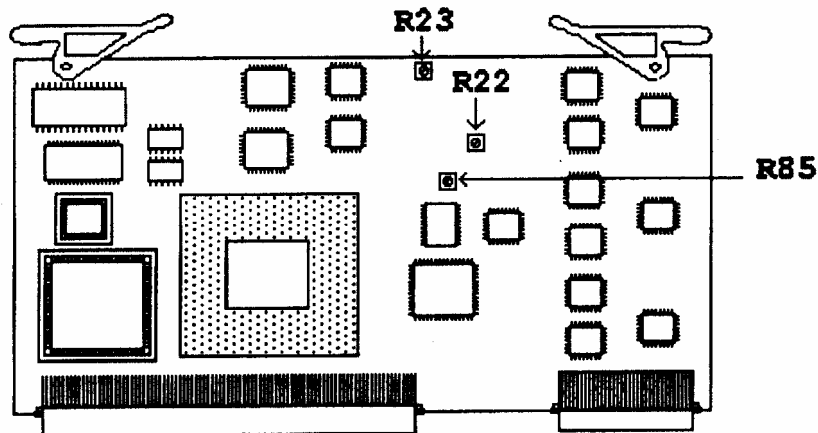

Figure 2. Function generator assembly A24.
(4) Connect multimeter **INPUT HI** and **LO** to **TI AUDIO OUT**. Set multimeter to measure volts dc.
(5) Press **FIELD SELECT ↓** key to select **LEVEL** and press **DATA ENTRY ENTER** key. Press **DATA ENTRY 3 . 1** and **ENTER** keys.
(6) Press **FIELD SELECT ↑** key to select **GEN 1** and press **DATA ENTRY ENTER** key to set **GEN 1 On**.
(7) If multimeter does not indicate $0.000 \pm .01$ V dc adjust A24R23 (fig. 2) as close as possible.
(8) Press **DATA ENTRY ENTER** key to set **GEN 1 Off**. Press **FIELD SELECT ↓** key to select **GEN 2** and press **DATA ENTRY ENTER** key to set **GEN 2 On**.
(9) If multimeter does not indicate 0.000 ± 0.01 V dc adjust A24R22 (fig. 2) as close as possible.
(10) Press **DATA ENTRY ENTER** key to set **GEN 2 Off**. Press **FIELD SELECT ↑** key to select **GEN 1** and press **DATA ENTRY ENTER** key to set **GEN 1 On**.
(11) Press **FIELD SELECT ↓** key to select **GEN 1 WAVE**, adjust **DATA SCROLL** knob to select **Sine**, and press **DATA ENTRY ENTER** key. Set multimeter to measure volts ac and record multimeter indication (approximately 3.1 V rms).
(12) Press **FIELD SELECT ↑** key to select **GEN 1** and press **DATA ENTRY ENTER** key to set **GEN 1 Off**.
(13) Press **FIELD SELECT ↓** key to select **GEN 2 WAVE**, adjust **DATA SCROLL** knob to select **Sine**, and press **DATA ENTRY ENTER** key. Press **FIELD SELECT ↑** key to select **GEN 2** and press **DATA ENTRY ENTER** key to set **GEN 2 On**.
(14) Adjust A24R85 (fig. 2) for a multimeter indication recorded in (11) above ± 5 mV (R).
(15) Disconnect multimeter and reconnect to TI and resistance standard set to 150 Ω .
(16) Press **MODE MTRS** key, **AUX (F6)** key, **DATA ENTRY** key 1 (Calibrations), and press **FIELD SELECT ↓** key to select **15. Func Gen Level**. Press **DATA ENTRY ENTER** and **DATA ENTRY 1** keys (199.9 mV calibration).
(17) Use **DATA SCROLL** controls to adjust multimeter indication for 199.0 ± 1 mV ac and press **DATA ENTRY ENTER**.
(18) Press **DATA ENTRY 2** key (2.5 V calibration), use **DATA SCROLL** controls to adjust multimeter indication for 2.500 ± 0.010 V ac then press **DATA ENTRY ENTER** key.
(19) Press **ESC (F6)** key, press **FIELD SELECT ↑** or **↓** key to highlight **8. VRMS Meter**, and press **DATA ENTRY ENTER** key.
(20) Press **DATA ENTRY ENTER** and use **DATA ENTRY** keys to enter multimeter indication to two decimal places, then press **DATA ENTRY ENTER** and **Ret (F5)** keys.
(21) Press **MODE AF GEN** (AF GEN Display) key; when prompted for backup data, press **SHIFT** and **Y** keys (Backup Cal Data ? y/n).
(22) Disconnect test equipment, press **TI POWER** key off, remove frequency generator assembly and extender card, and reinstall frequency generator assembly in proper slot. Press **TI POWER** key ON.